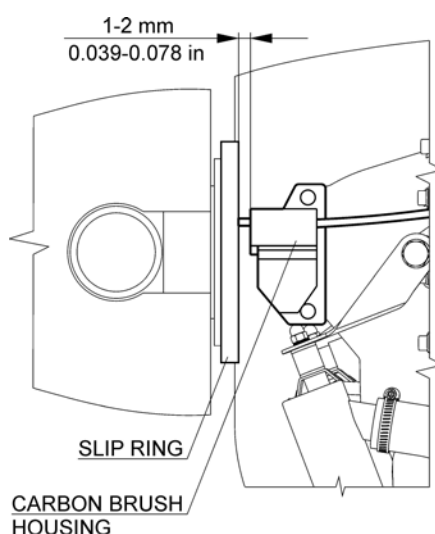

Fig. 10-16: Carbon brush housing adjustment
- (h) Adjust the carbon brush housing according to Fig. 10-16. Turn the propeller by hand and check that the carbon brushes seat properly in the centers of the slip ring, and makes contact with its entire surfaces.